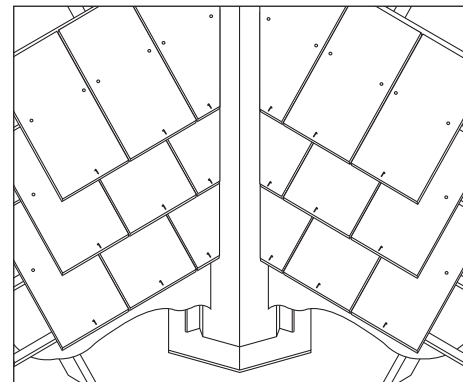

Fig. 21 – Open metal valley
- 6 Centre-nail slates, positioning rivets before fixing down. Ensure a 50mm overhang from the valley fillet and provide the required clear gutter to maintain an uninterrupted flow of water from the roof (Fig 21).